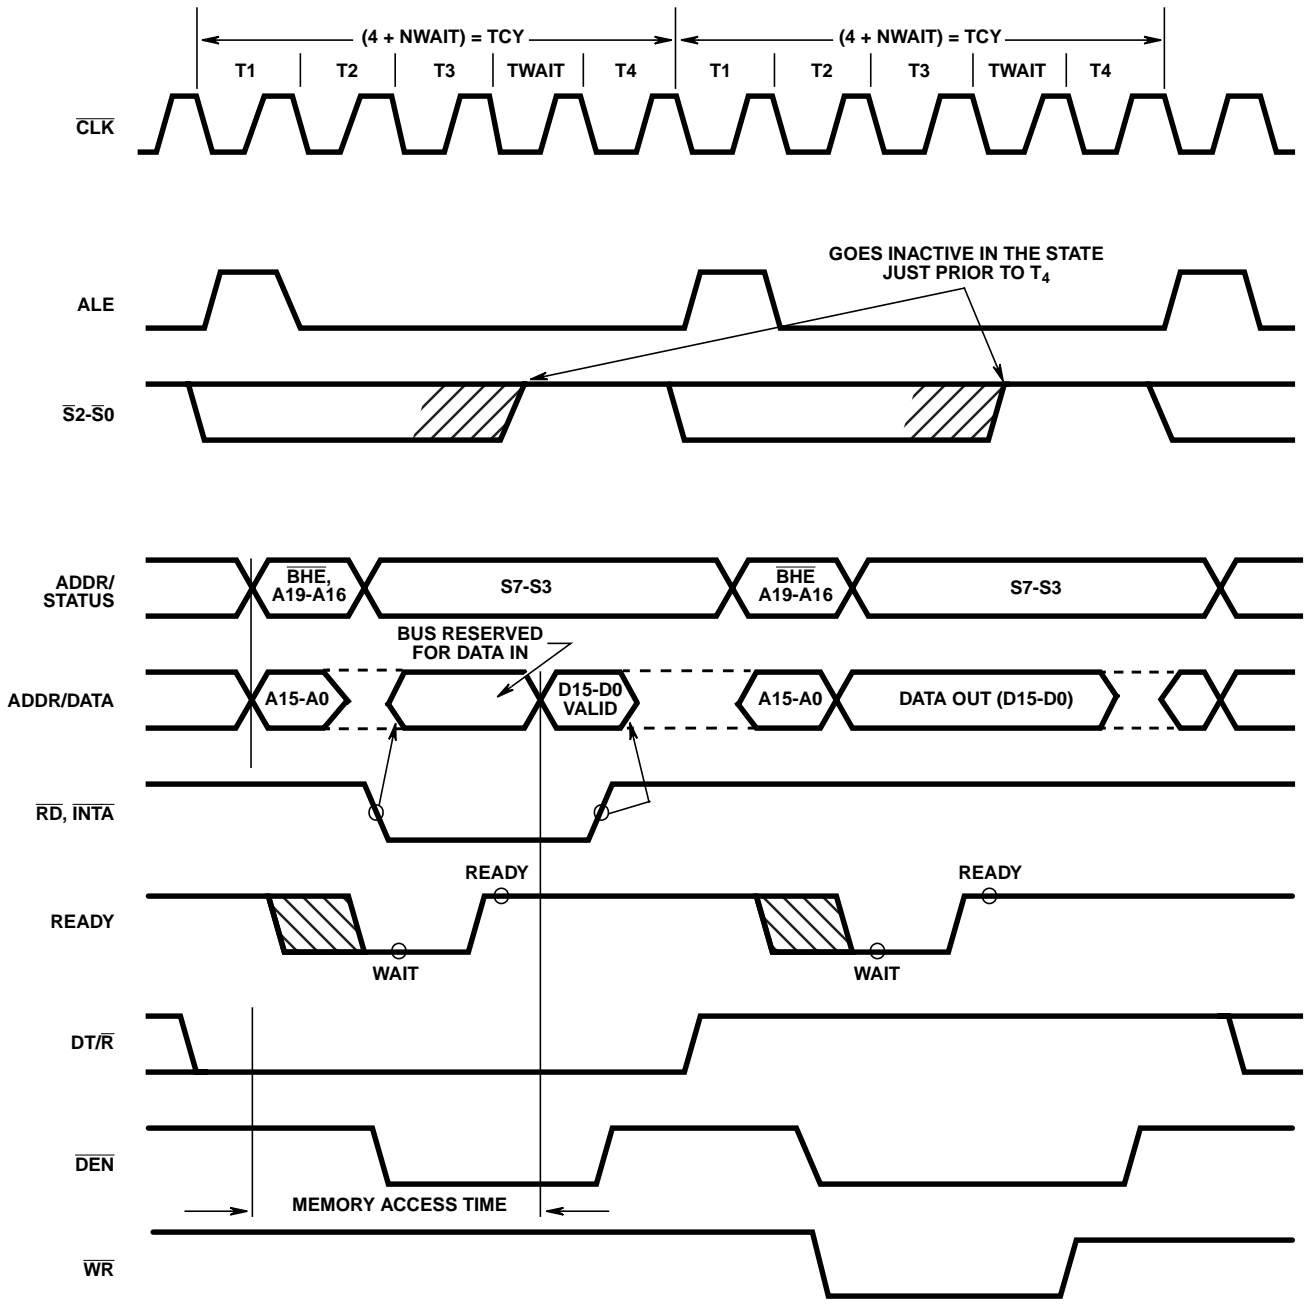
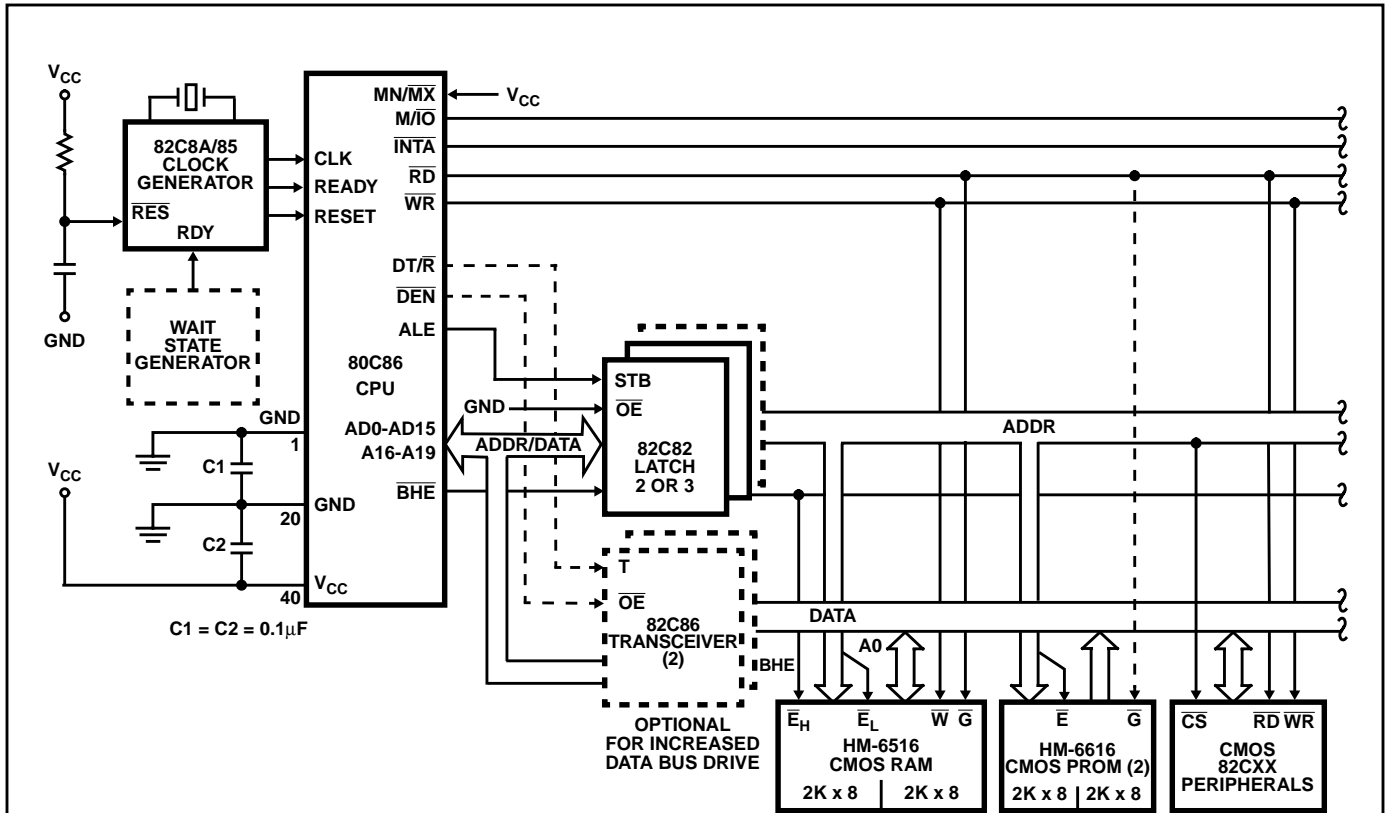

FIGURE 3. BASIC SYSTEM TIMING
FIGURE 6A. MINIMUM MODE 80C86 TYPICAL CONFIGURATION
The demultiplexed mode requires two 82C82 latches (for 64K addressability) or three 82C82 latches (for a full megabyte of addressing). An 82C86 or 82C87 transceiver can also be used if data bus buffering is required. (See Figure 6A.) The
Each processor bus cycle consists of at least four CLK cycles. These are referred to as T1, T2, T3 and T4 (see Figure 3). The address is emitted from the processor during T1 and data transfer occurs on the bus during T3 and T4. T2 is used primarily for changing the direction of the bus during read operations. In the event that a "NOT READY" indication is given by the addressed device, "Wait" states (TW) are inserted between T3 and T4. Each inserted wait state is the same duration as a CLK cycle. Periods can occur between 80C86 driven bus cycles. These are referred to as idle" states (Ti) or inactive CLK cycles. The processor uses these cycles for internal housekeeping and processing.
Typical system configurations for the processor operating in minimum mode and in maximum mode are shown in Figures 6A and 6B, respectively. In minimum mode, the MN/MX pin is strapped to VCC and the processor emits bus control signals (e.g. RD, WR, etc.) directly. In maximum mode, the MN/MX pin is strapped to GND and the processor emits coded status information which the 82C88 bus controller uses to generate MULTIBUS compatible bus control signals. Figure 3 shows the signal timing relationships.